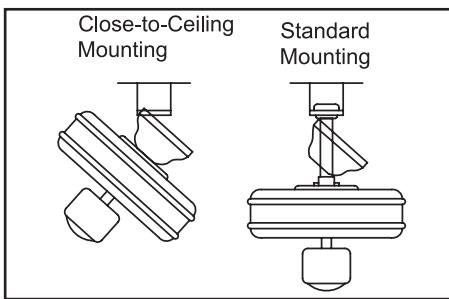

Figure 12
hook provided by utilizing one of the holes at the outer rim of the ceiling canopy (Figure 12). If using standard mounting, seat the hanger ball in the mounting plate socket. Make sure the tab on the mounting plate socket is properly seated in the groove in the hanger ball (Figure 12).
**THE HOOK AS SHOWN IN FIGURE 12 IS ONLY TO BALANCE FAN WHILE ATTACHING WIRING. FAILURE TO HANG AS SHOWN IN FIGURE 12 MAY RESULT IN HOOK BREAKING, CAUSING THE FAN TO FALL. HOOK MUST PASS FROM INSIDE TO OUTSIDE OF CANOPY.**